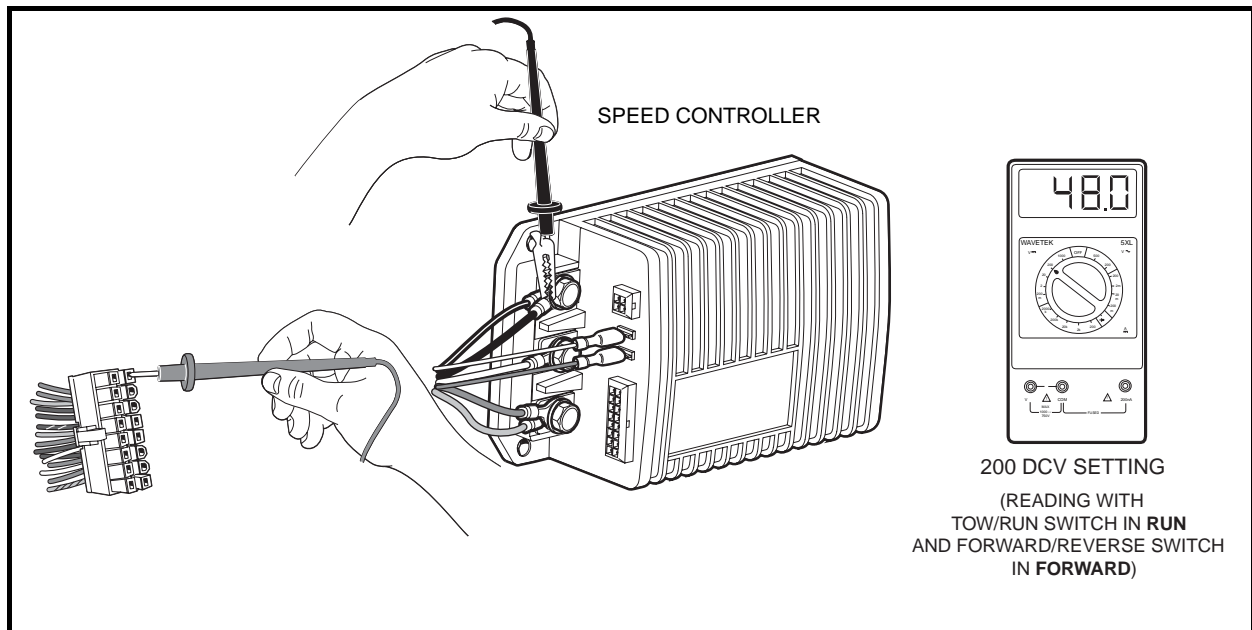

Figure 11-16 Pins 8 and 16 Test
4. Set a multimeter to 200 volts DC, insert the red (+) probe of the multimeter into pin 8 (brown wire) of the 16-pin connector. **See following CAUTION.** Using an alligator clip, connect the black (–) probe to the B–terminal of the speed controller (**Figure 11-16, Page 11-28**).